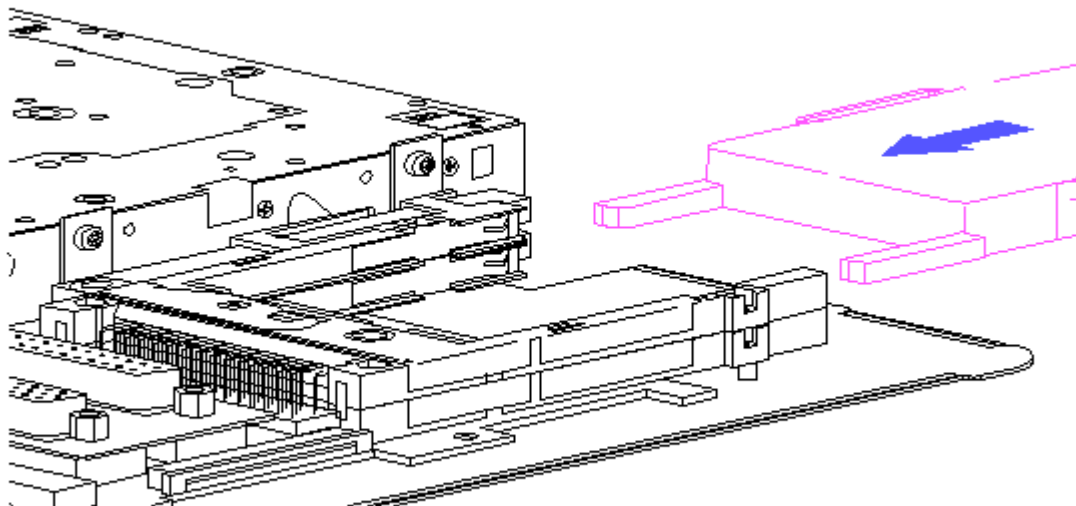

Figure 3-63. Using the PCMCIA Spacer
2. Insert the PCMCIA spacer into the rails to assist with rail alignment (Figure 3-63).